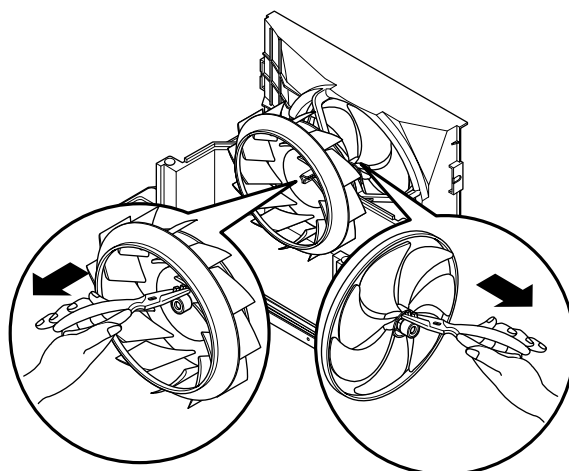

Figure 21
11. Remove the clamp springs which are clamped to the boss of fan and turbo fan by hand plier. (See Figure 21)